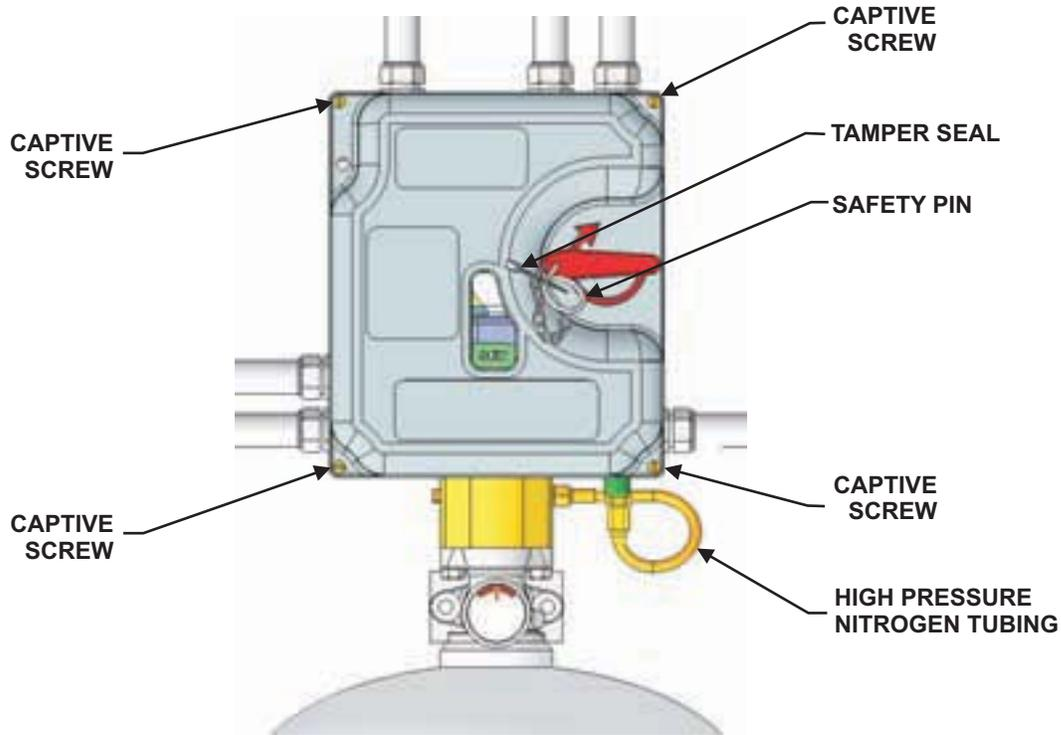

Figure 4-95. Cylinder Mounted UCH Control System
20. Secure the High Pressure Nitrogen Tubing back onto the bottom of the UCH Control System. Ensure that the fit is properly snug to prevent leakage. Refer to Figure 4-95.